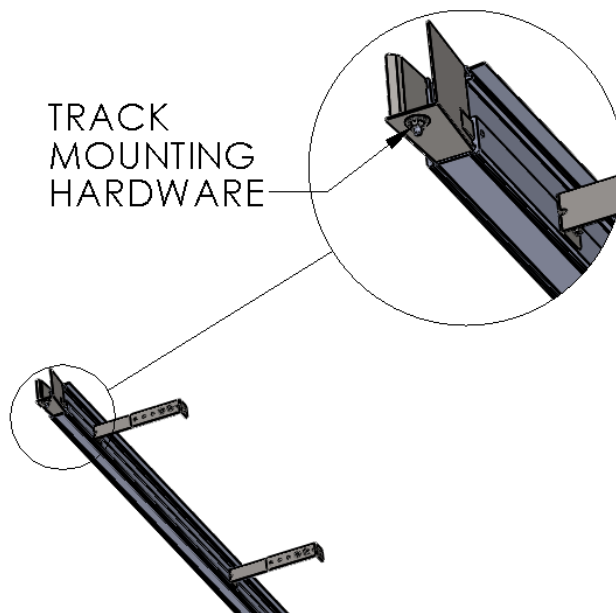

Figure 13 TRACK MOUNTING HARDWARE
1. Starting with either left or right side, loosely “hang” the track assembly by its Track Mounting Hardware. Setup and generally align the track under its respective Roll Assembly Mount Bracket. (Figure 13 TRACK MOUNTING HARDWARE (Figure 13 TRACK MOUNTING HARDWARE)